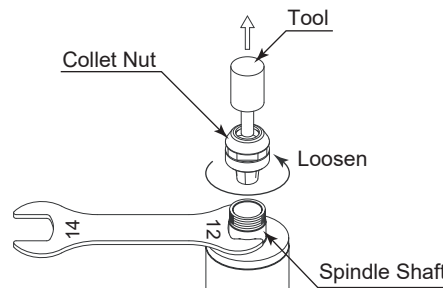

Fig. 4
- ① Remove the tool according to the section "7. CHANGING THE TOOL" procedure above and remove collet nut assembly (Fig. 4).